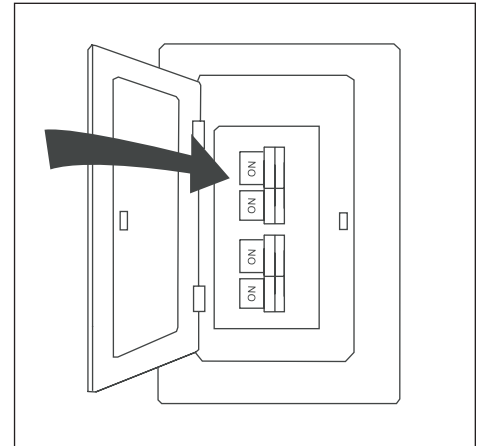

Figure 5.11
11. Turn on power to fan at breaker box and the wall switch. Assembly is complete (Figure 5.11).